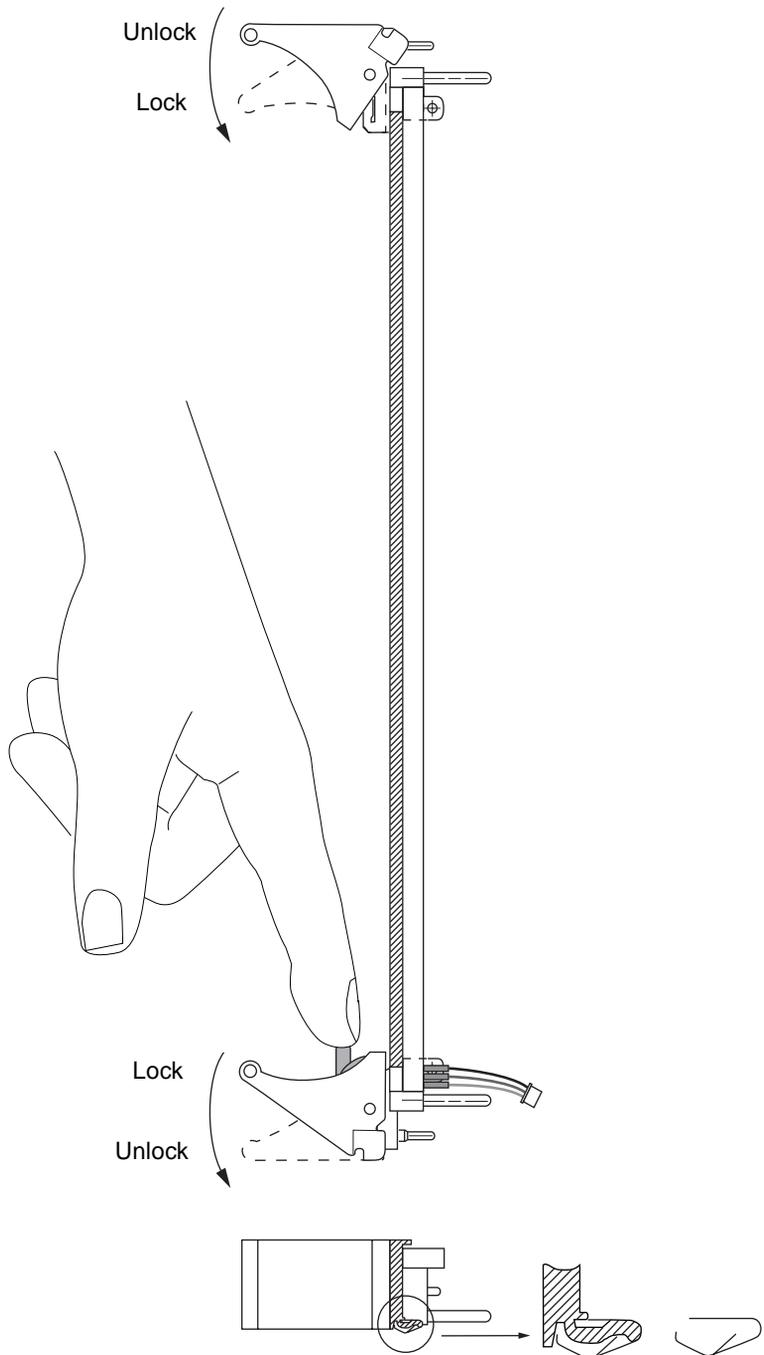

FIGURE 2-10 Releasing and Locking the Netra CP2140 Board Injector/Ejector Handles
3. Slide the new I/O board into the top and bottom mounting rails in the same slot into the backplane while gently keeping the board handles in the open position. Once the board is all the way in, lock the ejector handles (see FIGURE 2-10).
- 4. Slide the new I/O board into the top and bottom mounting rails in the same slot into the backplane while gently keeping the board handles in the open position. Once the board is all the way in, lock the ejector handles (see FIGURE 2-10).**
FIGURE 2-10 shows how to release and to lock the Netra CP2140 board injector/ejector handles.